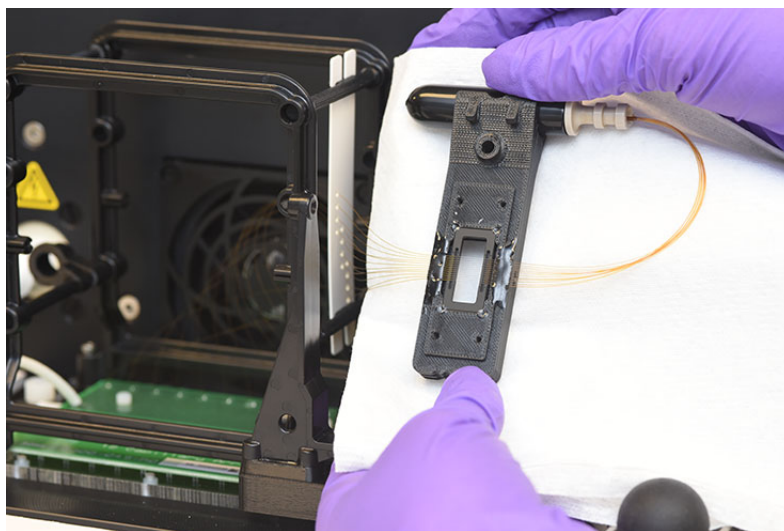

Figure 91 Capillary array window with paper towel behind
- 4 Place a paper towel behind the capillary array window as shown in **Figure 91**.